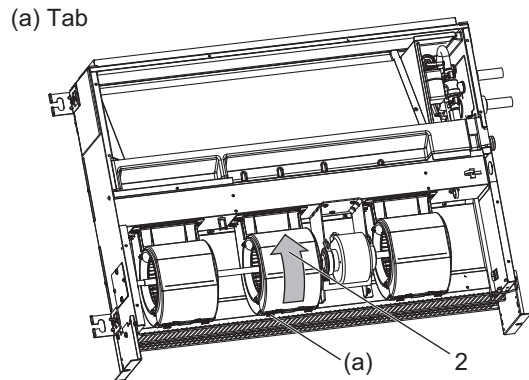

Fig.17
- (1) Squeeze the tabs on the fan casing to remove it in the direction of arrow 2. (Fig.17)